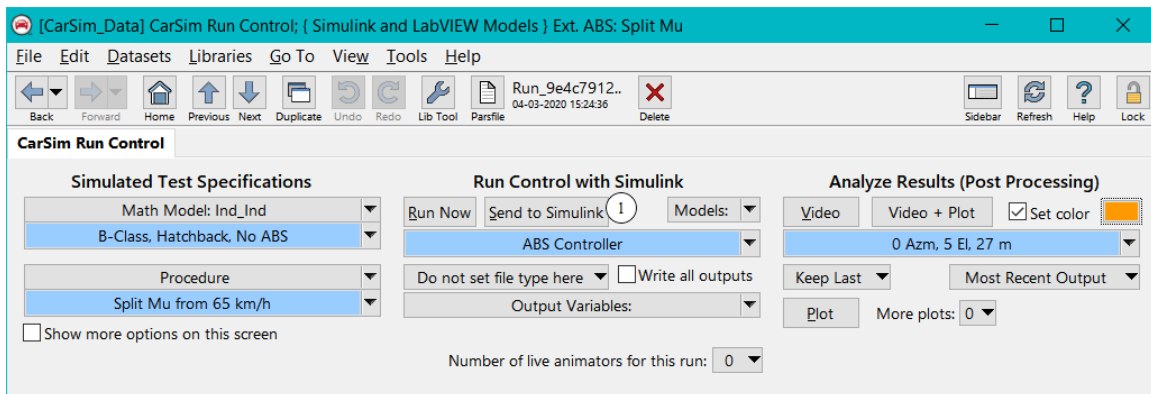
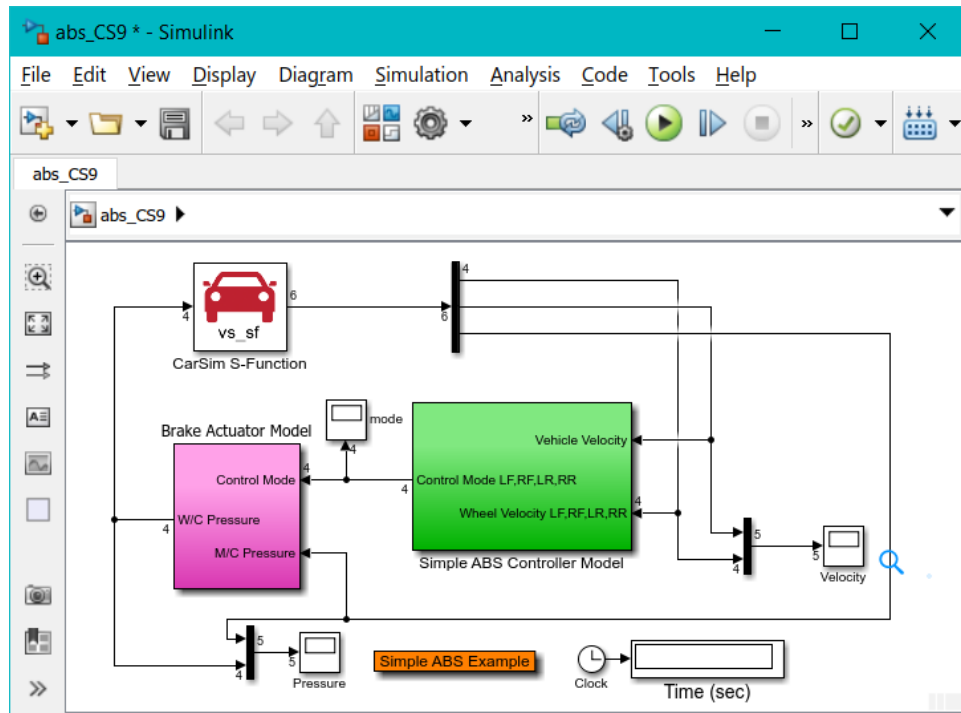

Figure 4. The Run Control dataset.
Figure 5. Simulink model with connections to the CarSim S-Function.
1. Click the **Send to Simulink** button ① (Figure 4). The VS Browser will load the Simulink model (Figure 5), using updated connection information.